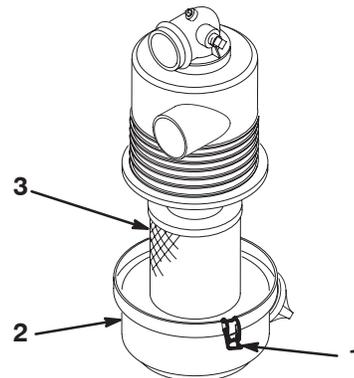

Figure 29
3. Release the latches securing the air cleaner cover to the air cleaner body. Separate the cover from the body. Clean the inside of the air cleaner cover (Fig. 29).
4. Gently slide the filter out of the air cleaner body to reduce the amount of dust dislodged (Fig. 29). Avoid knocking the filter against the air cleaner body.